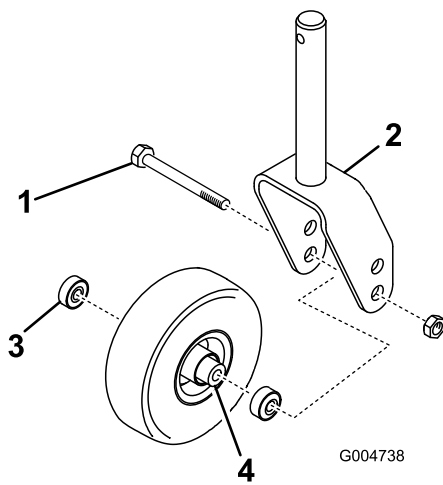
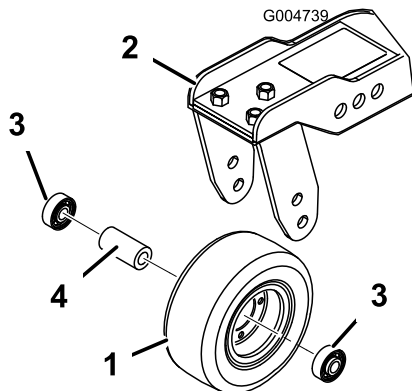

Figure 107
Figure 108
1. Remove the locknut from the bolt holding the caster-wheel assembly between the caster fork (Figure 107) or the caster-pivot arm (Figure 108).
2. Remove the bearing from the wheel hub and allow the bearing spacer to fall out (Figure 107 and Figure 108).